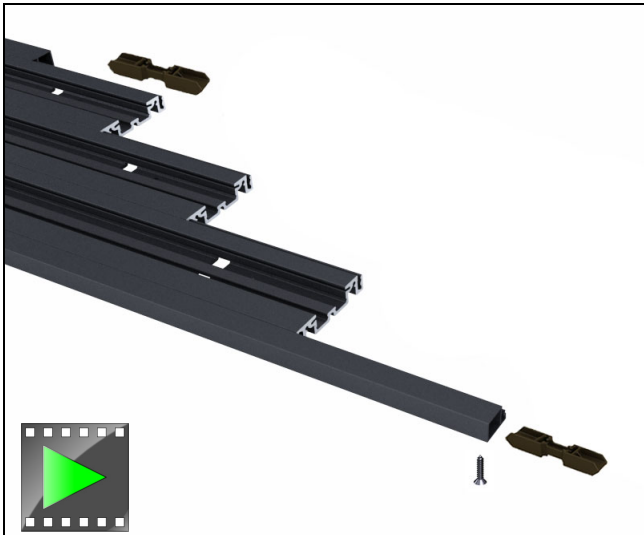

Figure 5
2. Insert sill liner splice keys into one side of each splice. Align holes of key and sill liner. Fasten one #8 x 5/8" flat head screw into sill liner splice keys. Insert one screw into each splice key. Do not tighten screws completely. See figure 5.